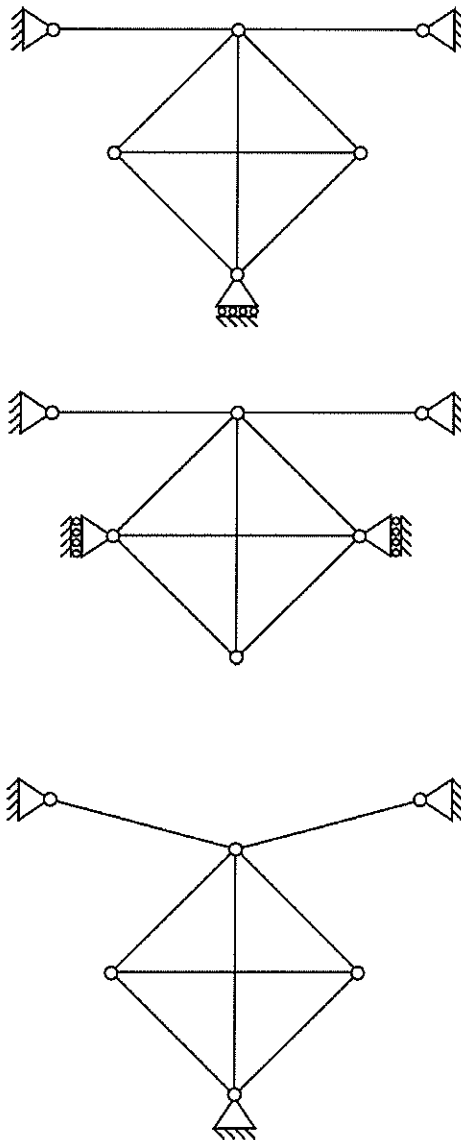

Figure 1a
1. (a) For each of the three pin-jointed frameworks shown in Figure 1a determine whether it is statically determinate, statically indeterminate, a mechanism, or a combination of these. If the framework is a mechanism sketch a possible deformed strain-free configuration, and state what assumptions must be made for this deformed configuration to occur. [50%]